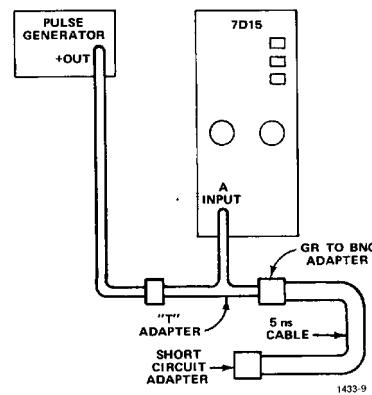

Fig. 5-6. Equipment setup used to check TIM WIDTH A accuracy.
- b. Remove the Feed-Through Termination from the cable and connect as shown in Figure 5-6.